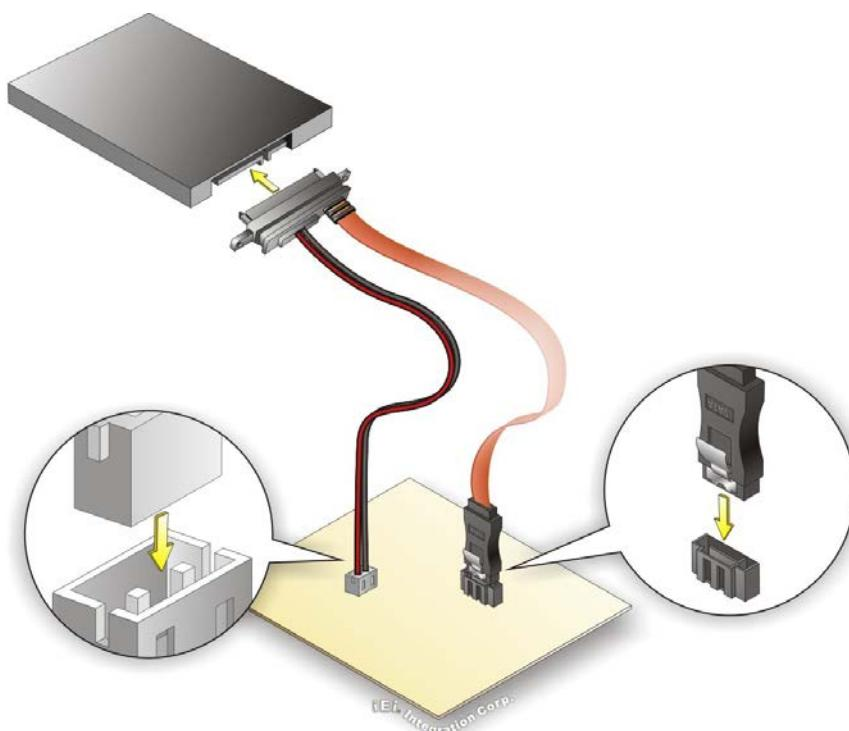

Figure 4-6: SATA Drive Cable Connection
Step 2: **Insert the cable connector.** Insert the cable connector into the on-board SATA drive connector and the SATA power connector. See Figure 4-6.
Step 3: Connect the cable to the SATA disk. Connect the connector on the other end of the cable to the connector at the back of the SATA drive. See **Figure 4-6**.